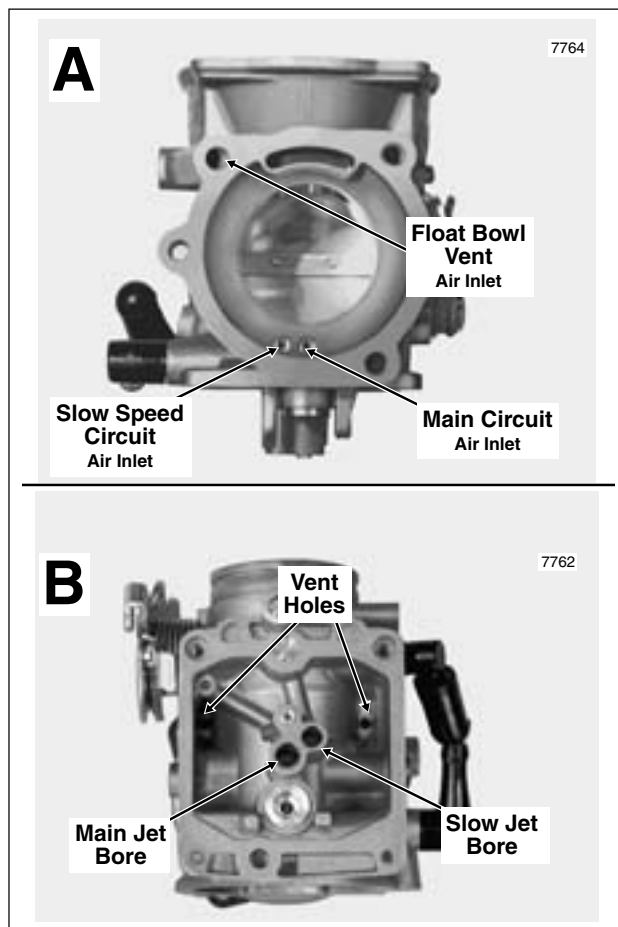

Figure 4-19. Clean Air/Fuel Passages in Carburetor
- a. Spray carburetor cleaner into air inlet hole of slow speed circuit. See A of Figure 4-19. While spraying, verify that solution exits slow jet bore at bottom of carburetor housing. See B of Figure 4-19. Placing finger over slow jet bore, verify that solution exits four pin holes just inboard of the throttle plate, as well as the single pin hole outboard of the throttle plate.
- a. Plugging main jet hole in carburetor throat, spray carburetor cleaner into air inlet hole of main circuit. See A of Figure 4-19. While spraying, verify that solution exits main jet bore at bottom of carburetor housing. See B of Figure 4-19.
- a. Spray carburetor cleaner into air inlet hole of float bowl vent. See A of Figure 4-19. While spraying, verify that solution exits two holes in float bowl chamber at bottom of carburetor housing. See B of Figure 4-19.